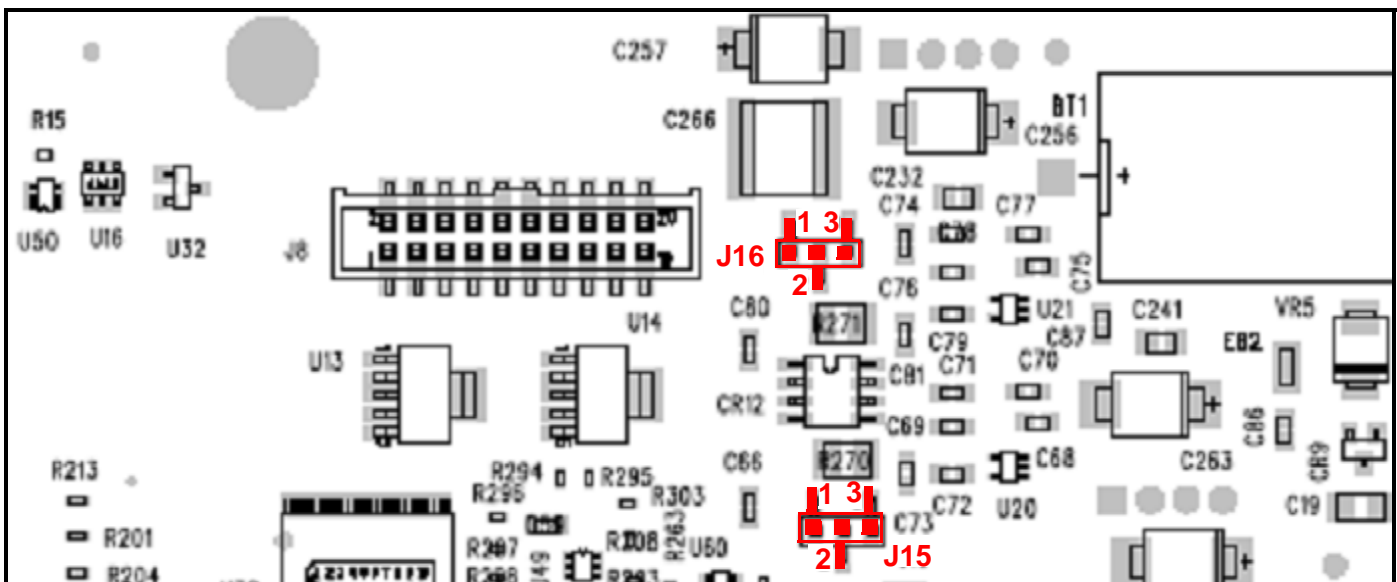

Figure 8: RS-485 Mode Termination - Install Jumpers at J15 and J16, Pins 1 and 2
- b. Using long-nose pliers, move jumpers J15 and J16 from pins 2 and 3 (default setting from factory) to pins 1 and 2 (see Figure 8 on page 14). J16 is the termination for port 1 and J15 is the termination for port 2. It is also recommended that basic ESD precautions such as grounded wrist straps be used for this procedure.